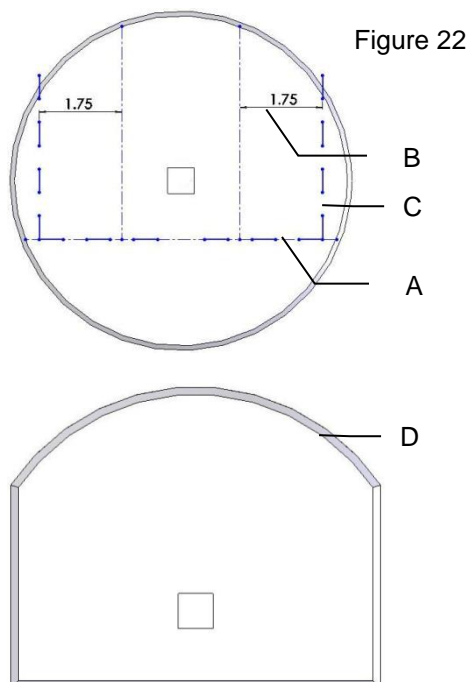

Figure 22
1. Both moisture discs (006-4641H) will need to be cut along the serrated line (A). (Figure 22) Measure from the laser etched line (B) 1.75 inches on both side. Mark and cut the disc. A completed disc is shown above (D).